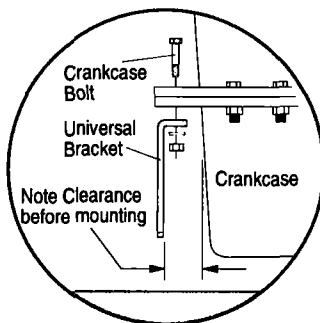

Figure 3A
1. Install the universal bracket to the crankcase using the existing crankcase bolts (Figure 3A). Crankcase bolt diameter must be no larger than 7/16 inch (11 mm).